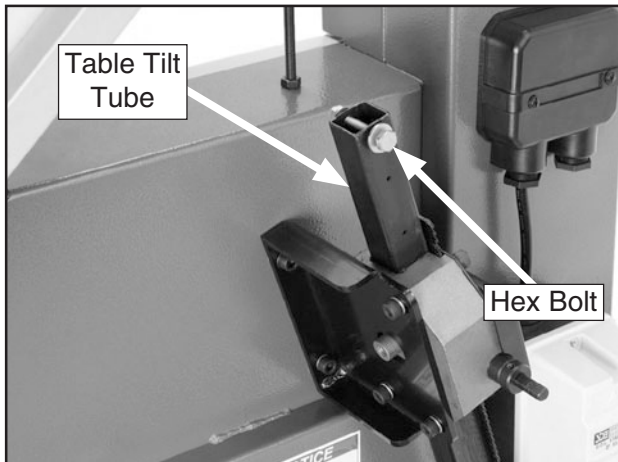

Figure 27. Table tilt assembly.
2. Remove the hex bolt, hex nut and flat washers installed on the geared table tilt tube (Figure 27).